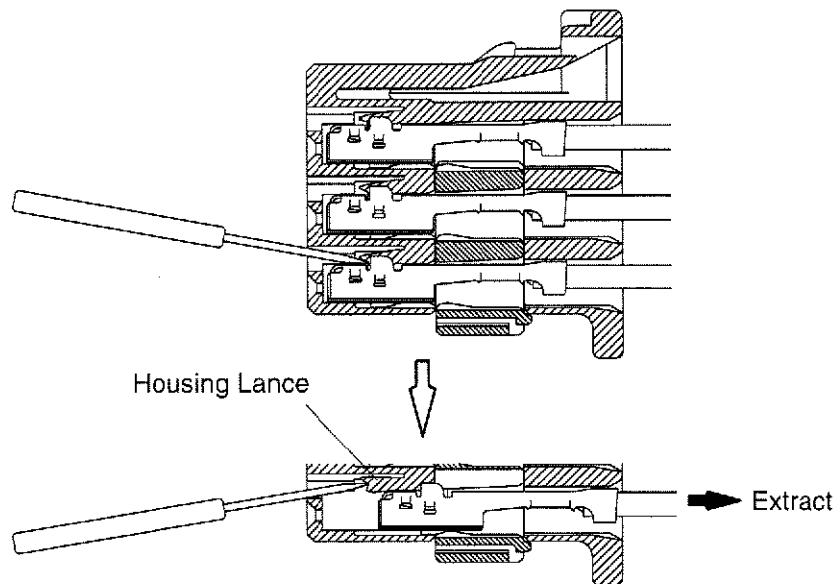

Fig.13
- (1) Confirm the retainer is in pre-assembled condition. When the retainer is in final lock condition, it must be changed to pre-assembled condition. Para. 6.3. The female contact can not be extracted in final assembled condition.
- (2) To extract the female contact, pull the wire whilst unlocking the housing lance with a 1mm blade screw driver. Fig.13.